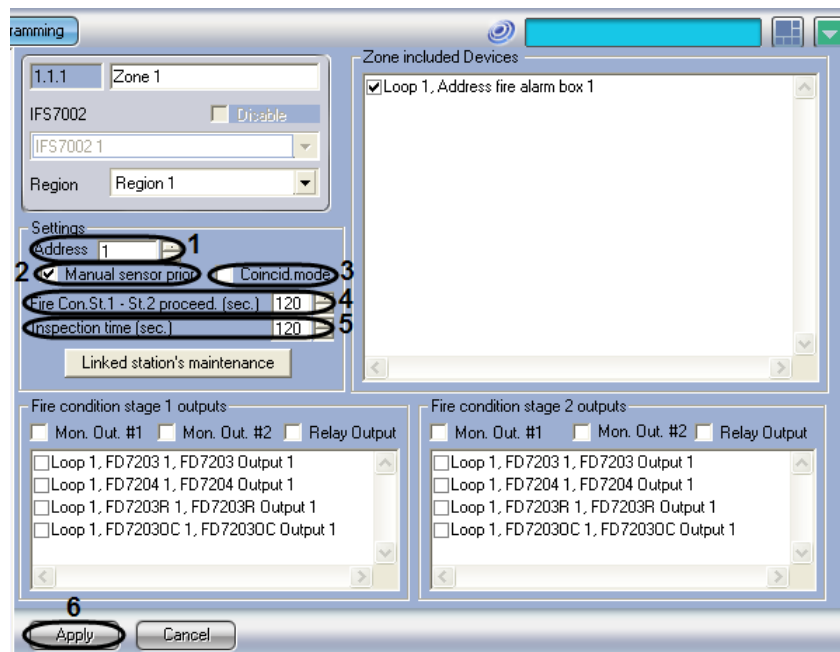

Fig. 3.7—2 Configuring parameters of the zones
1. Go to the settings panel of the “Zone” object (Fig. 3.7—2).
2. Enter the number of the zone into the “Address” field (see Fig. 3.7—2, 1).
3. If the manual sensor must go off first, then check the “Manual sensor prior.” checkbox (see Fig. 3.7—2, 2). If checked, the manual sensor goes off and activates the Fire Condition Stage 2. Otherwise the Fire Condition Stage 1 is activated.
4. If the Overlap (Coincidence) mode should be used for the zone, then check the “Coincidence mode” checkbox (see Fig. 3.7—2, 3).